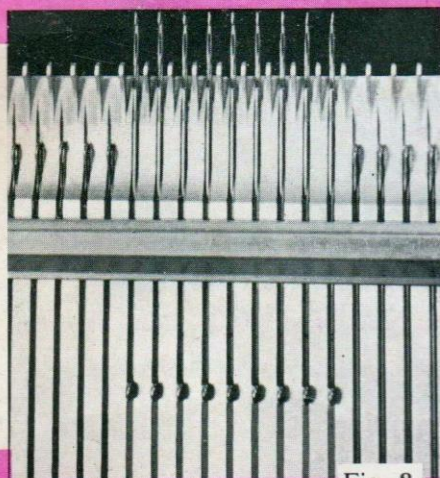

Fig. 8
- 3 Working position 2 - The hook of the needle with the latch open, projects just beyond the needle beds (Fig. 8)